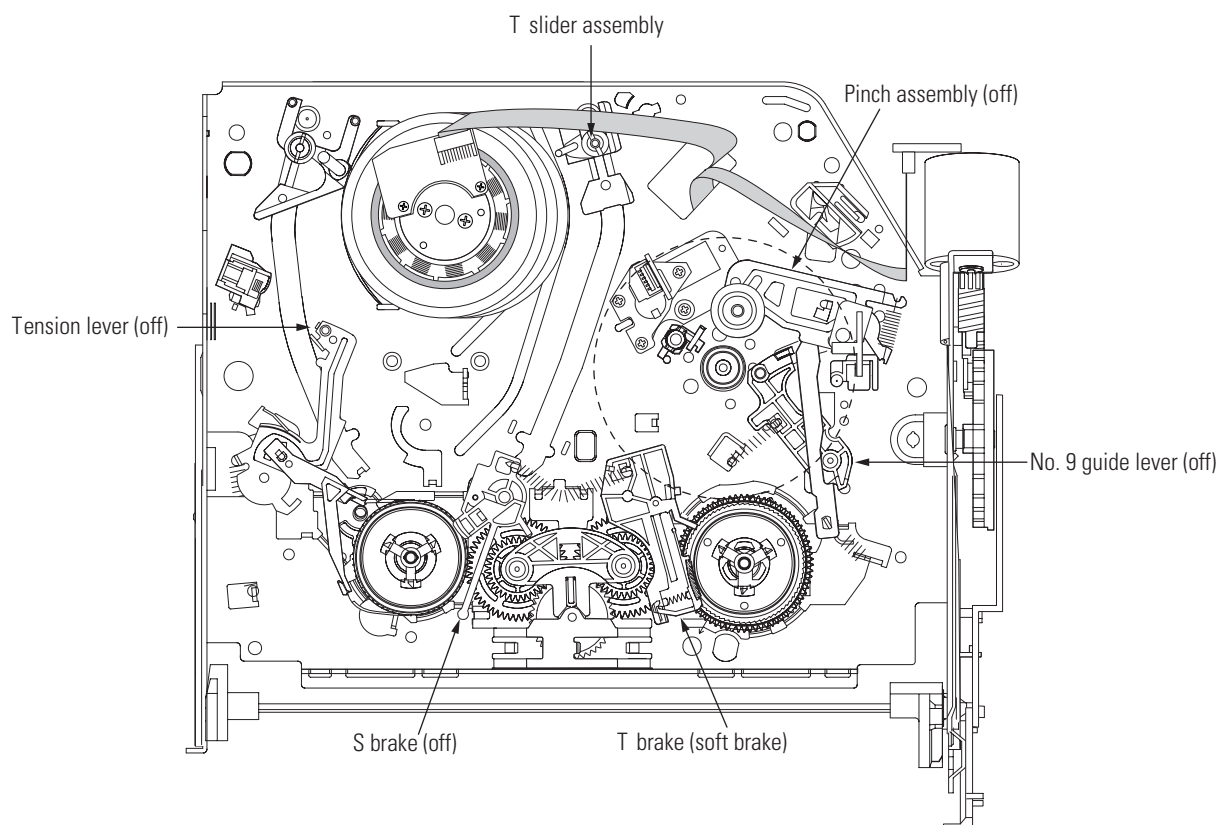
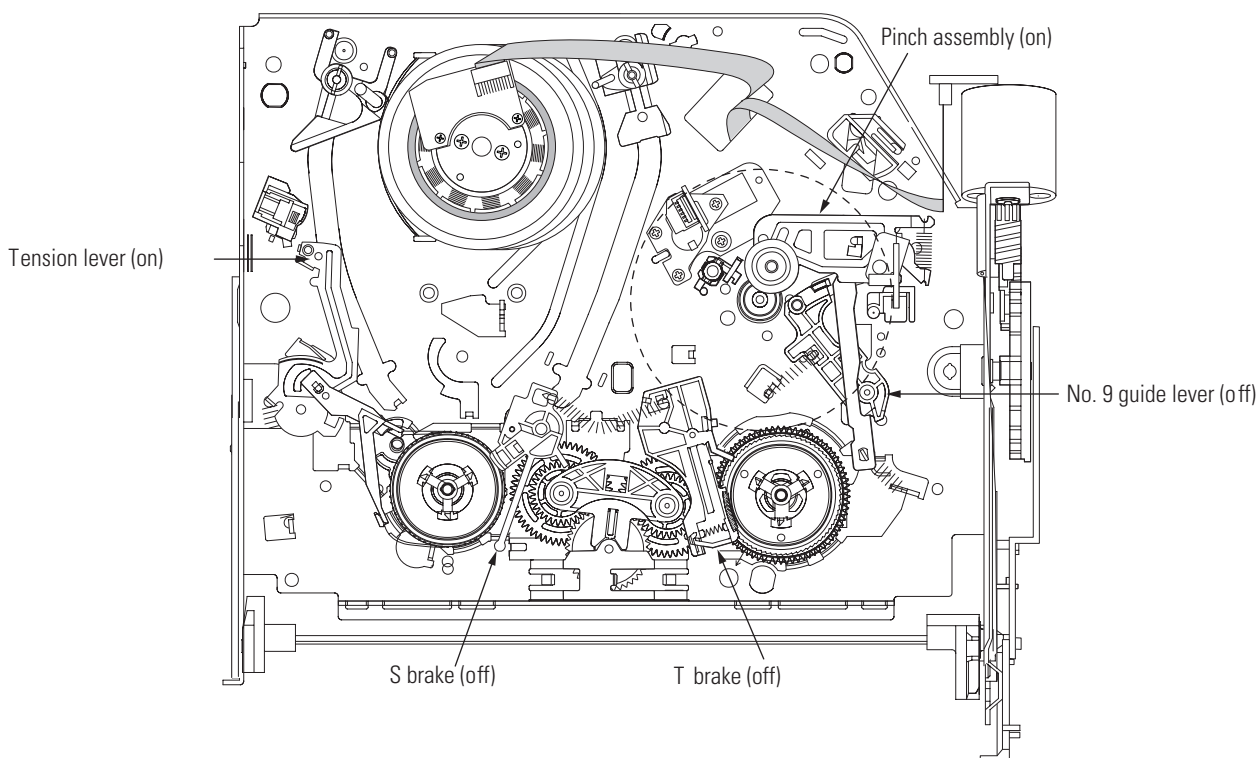

Fig. 15-27 FF/REW 2 Mode (Position VII)
Fig. 15-28 Playback Mode (Position IV)
The loading motor stops when the cam position reaches the position IV(Fig. 15-28), VII(Fig. 15-27) (FF/REW mode).
- (3) IC601 makes the loading motor rotate in the reverse direction again and stops the loading motor when the cam slider reaches the position IV(Fig. 15-28) (playback mode), thus setting the playback standby mode.
- (1) When the [PLAY] button is pressed in the stop mode, the mechanism enters the playback mode.
- (2) IC601 controls cylinder motor drive IC and rotates the cylinder motor.
- (3) IC601 controls Capstan Motor Drive IC to rotate the loading motor in the reverse direction and stops the motor when the cam slider reaches the position IV(Fig. 15-28) (playback mode). (When operating from the playback standby mode, the cam slider has been already on the position IV.) The mechanism works as follows :
The cam slider is in the position IV (Fig. 15-28) (playback mode), the cylinder motor is rotating, and the capstan motor is rotating in the forward direction.
The cam slider reaches the position IV(Fig. 15-28) (playback mode).
- (1) When [PAUSE] button is pressed in the REC mode, the mechanism enters the REC pause mode.
- (2) IC601 controls the audio circuit and the video circuit, and releases the record enable mode and performs the rewinding for synchronous editing.
- (3) After completion of the rewinding for synchronous editing, the cam slider is in the position IV(Fig. 15-28) (playback mode), the cylinder motor is rotating, and the capstan motor and the loading motor stop.